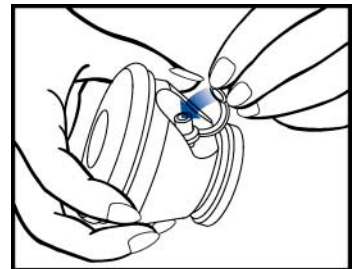

Figure 3
4. Cover port on Express Cup with attached blue cap. See **Figure 3**.
3. Remove Express Cup from Connector by pulling straight away. See **Figure 3**.